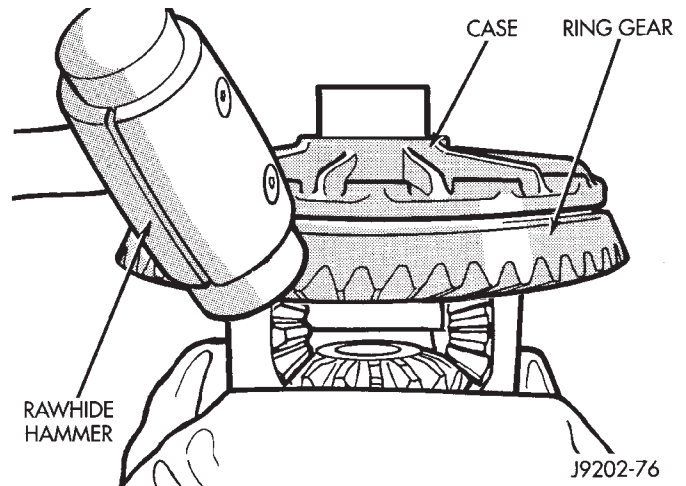

Fig. 26 Ring Gear Removal
- (1) Remove differential from axle housing.
- (2) Place differential case in a suitable vise with soft metal jaw protectors (Fig. 26).
- (3) Remove bolts holding ring gear to differential case.
- (4) Using a soft hammer, drive ring gear from differential case (Fig. 26).